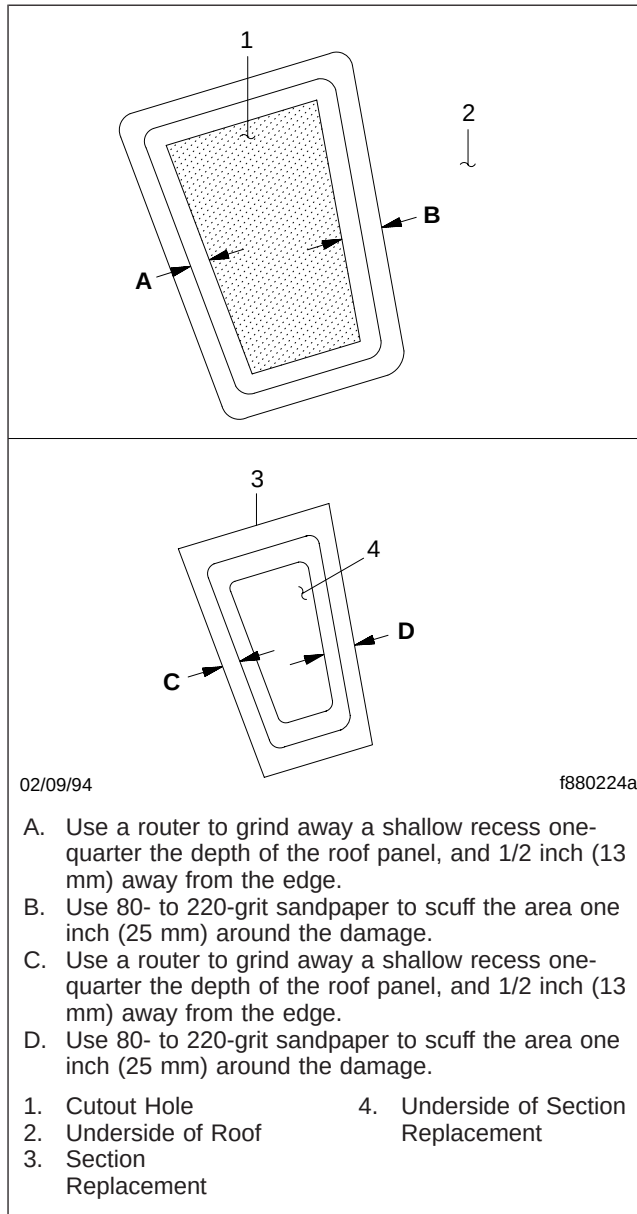
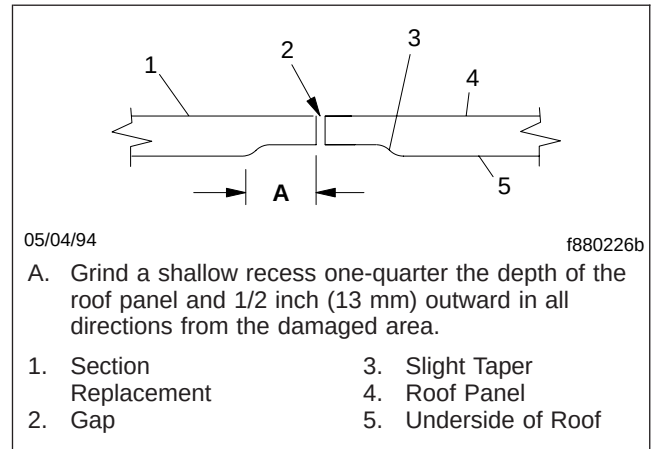

Fig. 7, Preparing the Section Replacement and Roof Panel Cutout on the Unexposed Side
Fig. 8, Cutout Area (cross-sectional view)
7. On the inner side of the panel, use a router bit (on a grinder or drill) to grind away a shallow recess one-quarter the depth of the roof panel, 1/2 inch (13 mm) outward from all sides of the cutout area; see Fig. 7, Ref. A. Also, grind 1/2 inch (13 mm) inward from all sides of the section replacement; see Fig. 7, Ref. C. Slightly taper the outside edge of the ground area on the roof panel and the inside edge of the ground area on the section replacement; see Fig. 8.
8. Use 80- to 220-grit sandpaper to scuff an area at least 1 inch (25 mm) out from all sides of the cutout area; see Fig. 7, Ref. B.
Also, scuff at least 1 inch (25 mm) in from all sides of the section replacement; see Fig. 7, Ref. D. Be sure to scuff thoroughly, since this will give the section replacement a surface to which